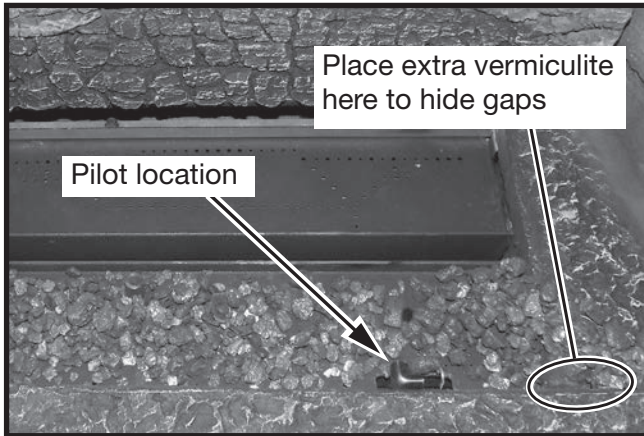
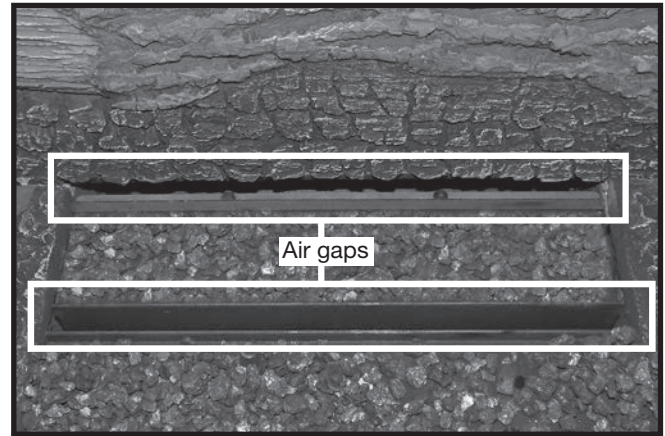

Figure 68: Front tray filled lightly with vermiculite and pilot location.
Figure 69: Air gaps.
6. Distribute a thin layer of vermiculite (1/4" to 1/2") onto the front burner tray (Figure 68). Place extra vermiculite on the thin, but noticeable gaps between the front base piece and the two side base pieces. Keep the vermiculite from interfering with the pilot assembly. Place a layer of vermiculite (1/4" to 1/2") onto the rear burner tray to fill it up until it is level with the side and end walls. Keep the vermiculite from falling into the air gaps between the front and rear burners and the gap between the rear burner and the air deflector which supports the first log (Figure 69).